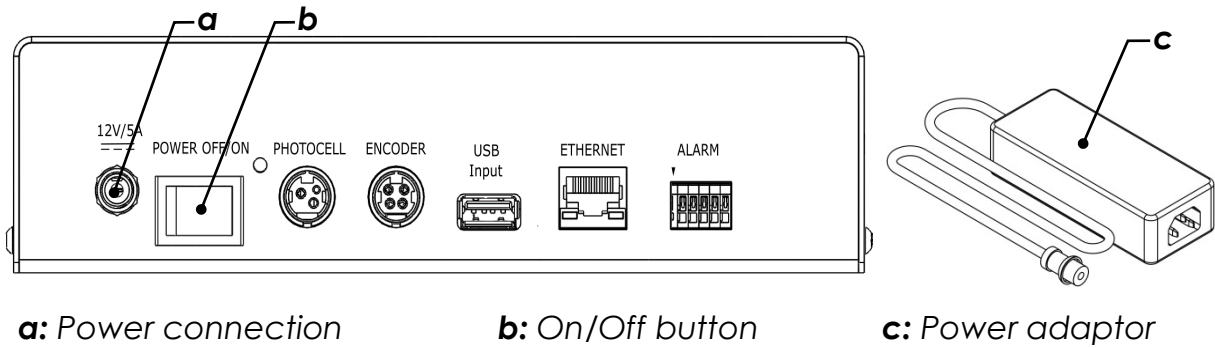

Figure 12
- Insert the male end of the power adapter cable supplied at the back of printer (refer to Figure 12).